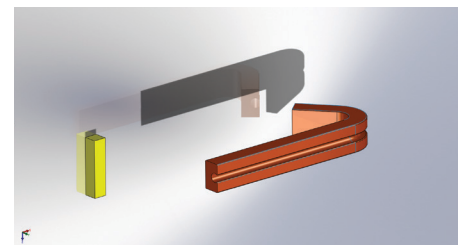

Figure 25: CAD model of region two with reference feature.
2.6.1.3. Extract second region (Figure 25).